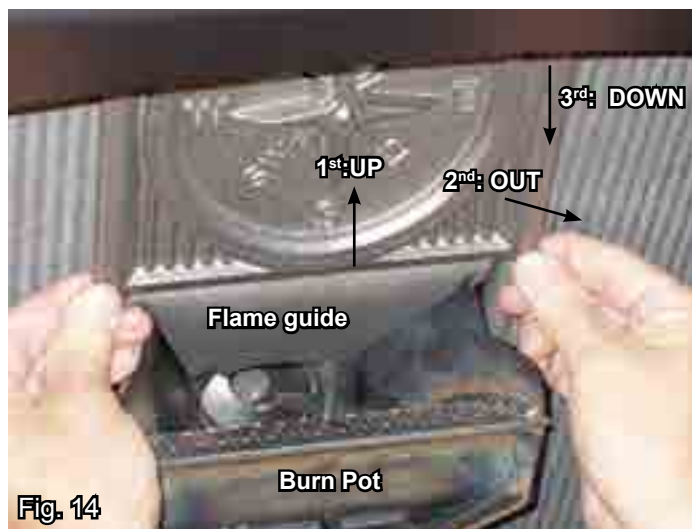

Fig. 14
4. Remove the (4) internal pieces of cast iron. See Fig. 14 and 15.
- Lift up on the 2 bottom corners of the medallion until it is higher than the top of the flame guide. Fig. 14